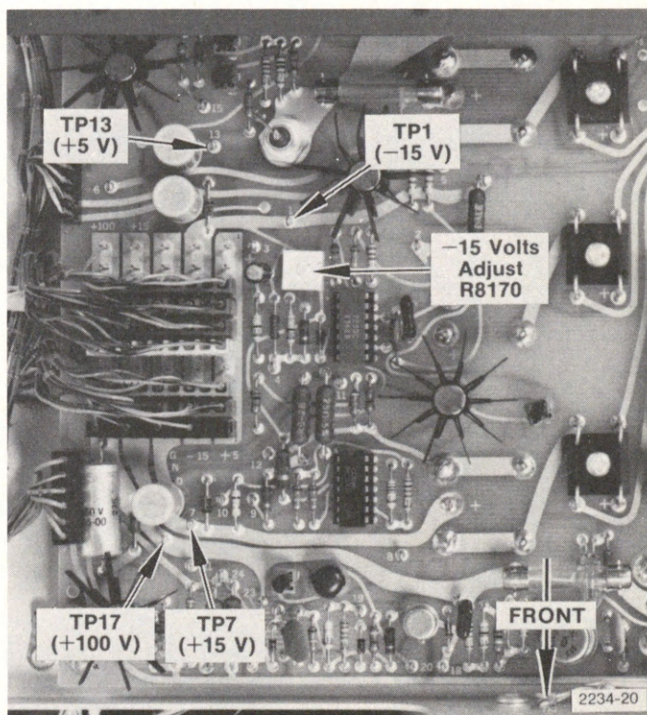

Fig. 6-3. Partial LV & HV Power board showing test point and adjustment locations.
a. Connect an accurate dc voltmeter to TP1 (see Fig. 6-3).
c. ADJUST—The -15 V Adjust (R8170) control (see Fig. 6-3) to obtain a meter reading of -15 volts, $\pm 0.5\%$.